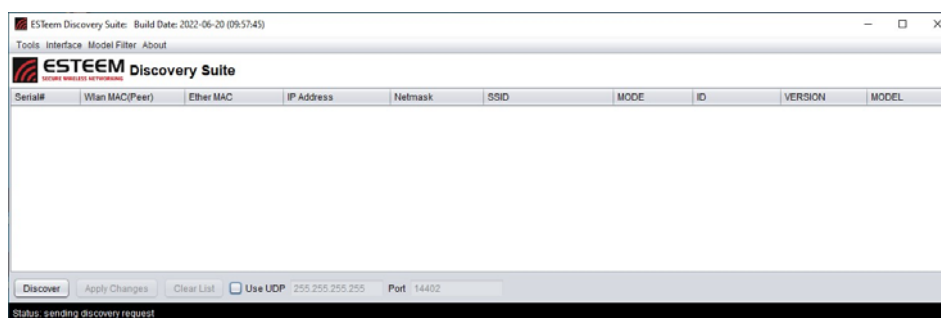

Figure 2: ESTeem Discovery Suite Utility
2. Once both the above programs have been installed, save the Discovery Utility file to any location on your computer such as the Desktop. Double click the program file name and Figure 2 will be displayed.